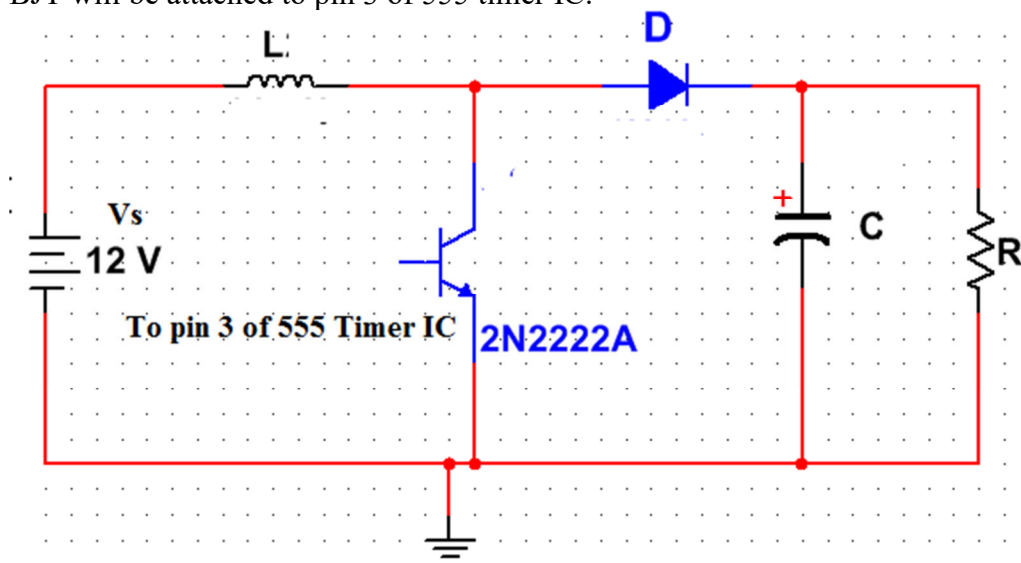

Figure 10.6: Boost Converter
- Implement the boost converter as shown in the Figure 10.6. Remember base terminal of the BJT will be attached to pin 3 of 555 timer IC.